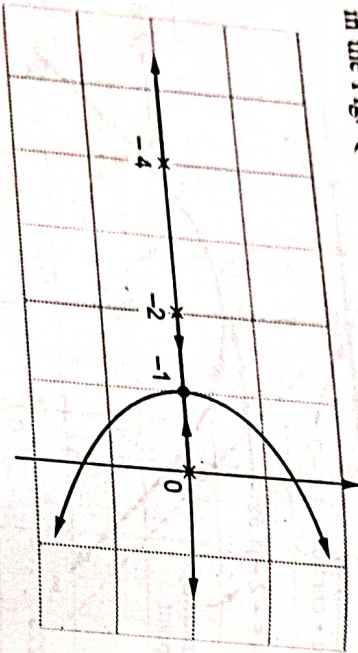

Fig. Q.26.2
• Now if pole at  $s = -4$  is added to  $G(s)H(s)$  root locus becomes as shown in the Fig. Q.26.2.